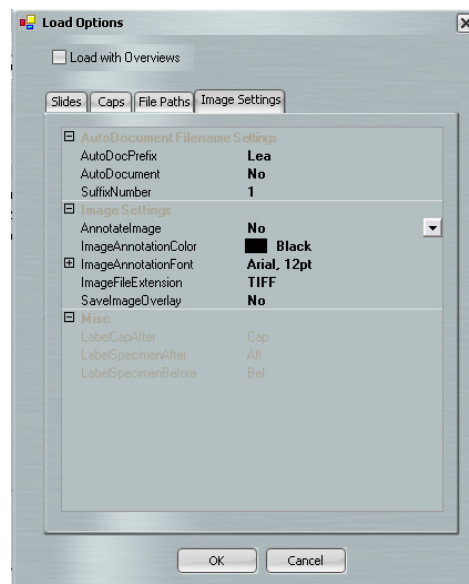

Figure 20 Image settings.
2. Click the **Image Settings** tab (see Figure 20).